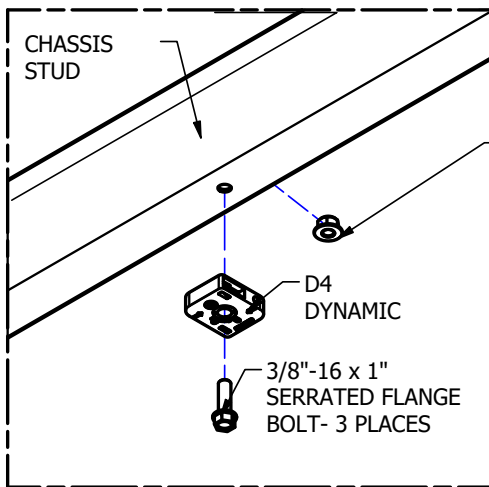

Figure 7(a) - D4 Dynamic Installation Procedure
7. Assemble the Chevron cable Brace with D4 Dynamics. Install the D4 Dynamic on center hole of Chassis Stud as figure 7(a). Install the Cable Eye on Power Legs (6x) as Figure 7(b). See Figure 7 and 8 on next page.